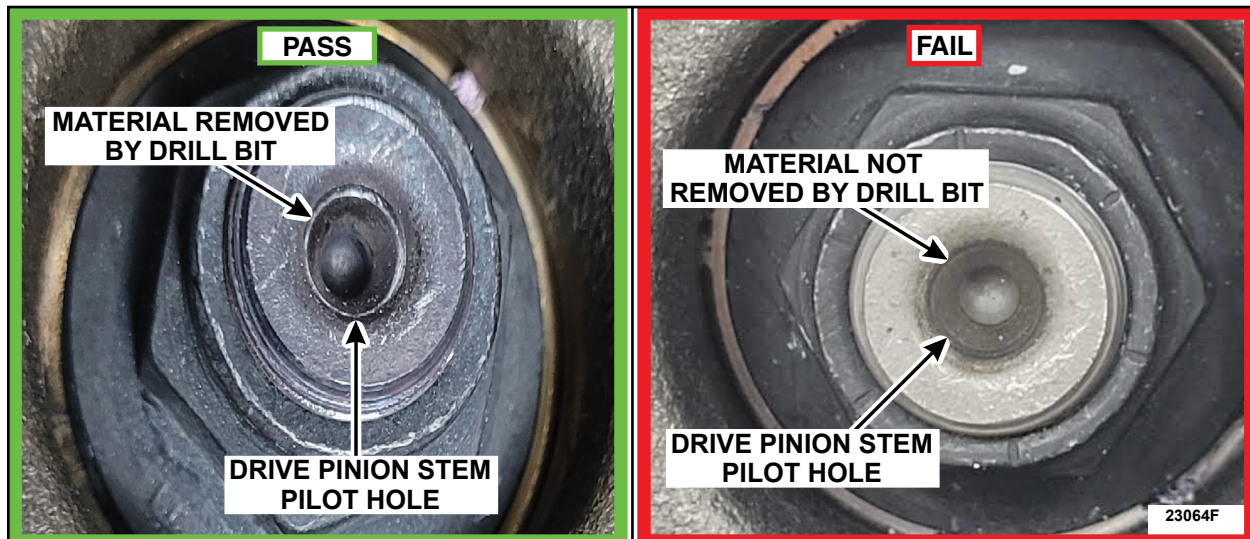

FIGURE 6
6. Did the 5/16 in (8 mm) drill bit remove material from the drive pinion stem pilot hole? See Figure 6.